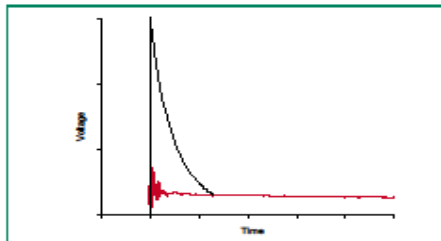

Figure 2. Operation of MLV in ESD event.
- Figure 2 shows the general clamping operation of a voltage transient by an MLV. The voltage is clamped to a level below that which could cause damage to the circuit.